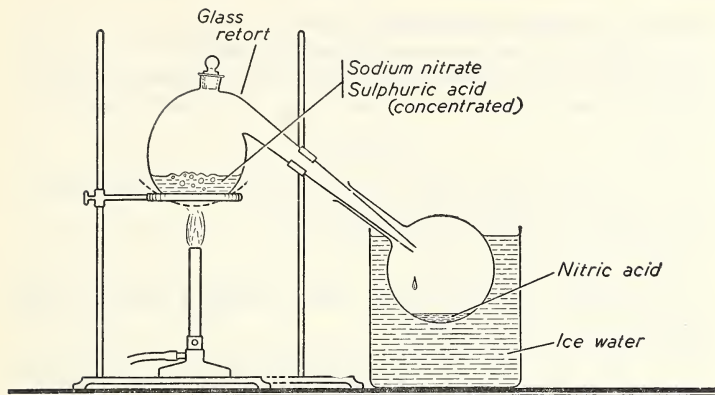

Fig. 77. The laboratory preparation and collection of nitric acid.
1. Arrange the apparatus as shown in Figure 77. Place two